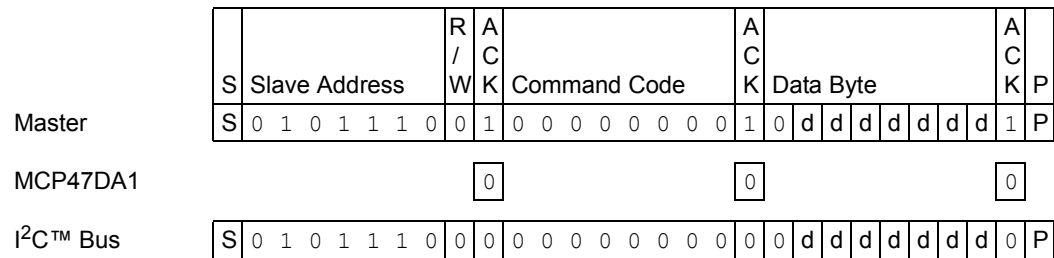
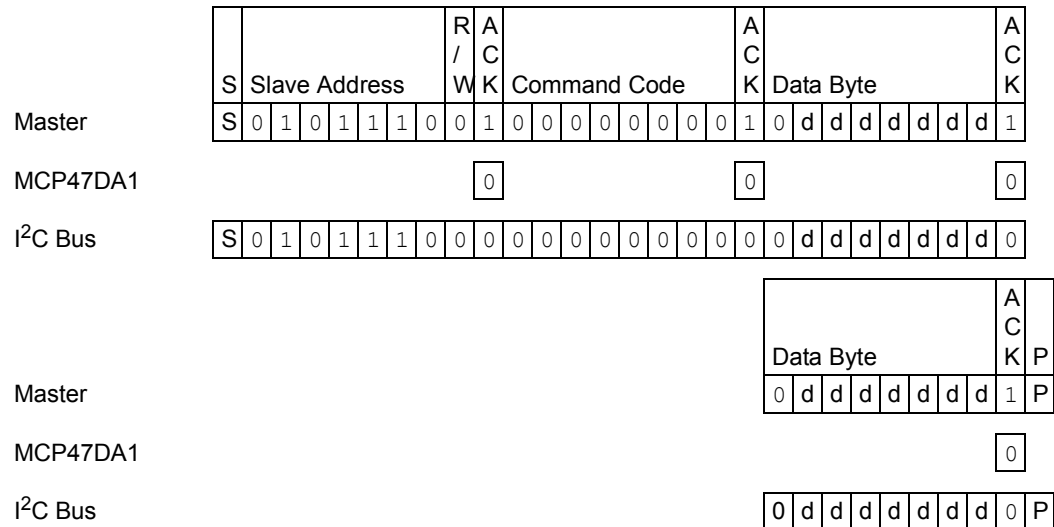

**FIGURE 5-11:** *I2C Single Byte Write Command Format.*
**FIGURE 5-12:** *I2C Write Command Format.*
Data bytes may be written after each Acknowledge. The command is terminated once a Stop (P) condition occurs. Refer to Figure 5-11 for the single byte write sequence and Figure 5-12 for the generic (multi-byte) write sequence. For a single byte write, the master sends a Stop or Restart condition after the first data byte is sent.